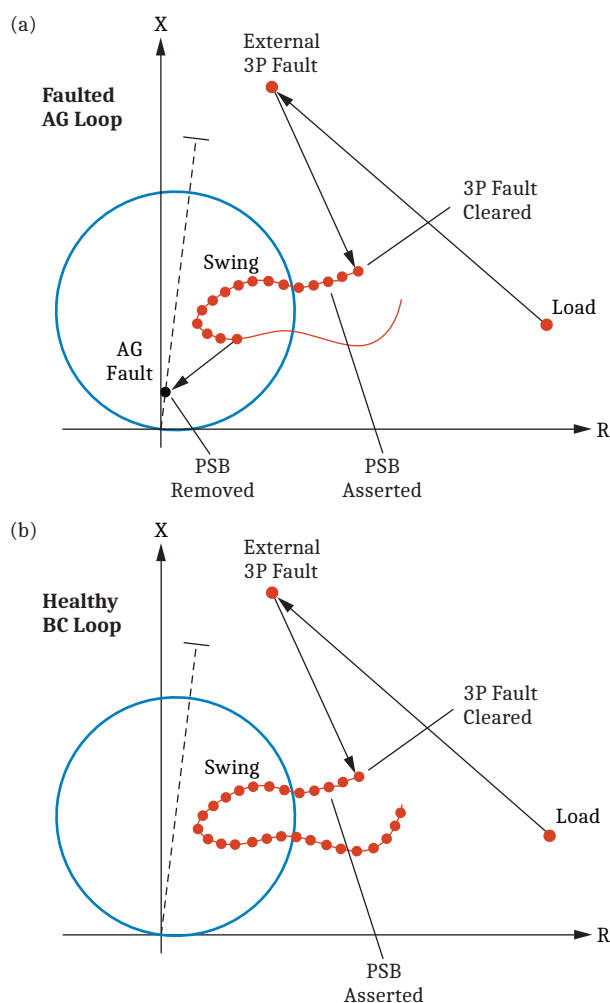

Figure 26 PSB Logic Sequence: Load, External Three-Phase Fault, Power Swing, Internal Phase A-to-Ground Fault in (a) a Faulted AG Loop and (b) a Healthy BC Loop
- The logic works reliably, providing good balance between security and dependability, regardless of swing frequency and switching events or faults before and during power swings. The logic unblocks a faulted loop while maintaining a blocking signal in healthy loops (see *Figure 26*).